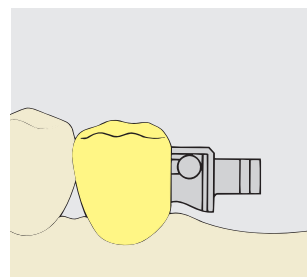

Fig. 5
To adapt the female part to the gingival contours, its underside can be reduced by up to 1.5 mm. The female must be on the ball (A) to ensure that the distance between it and the gingivae (B) can be adapted as required (Figure 5). The female should then be aligned using the rod (080363), taking the angle of insertion into account and either polymerized directly into the denture saddle or soldered to the chrome cobalt framework.